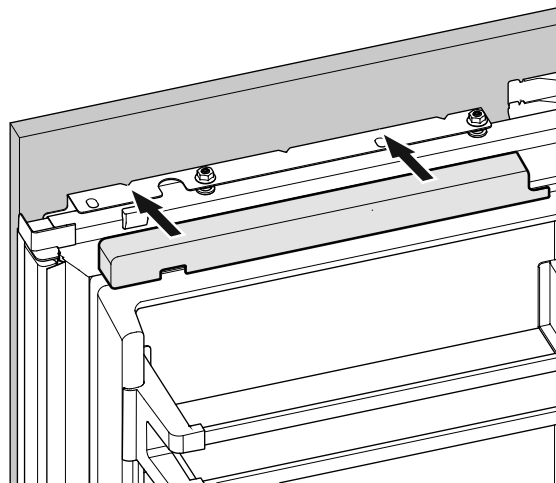

Figure 33
14. Click cover into place (**Figure 33**).